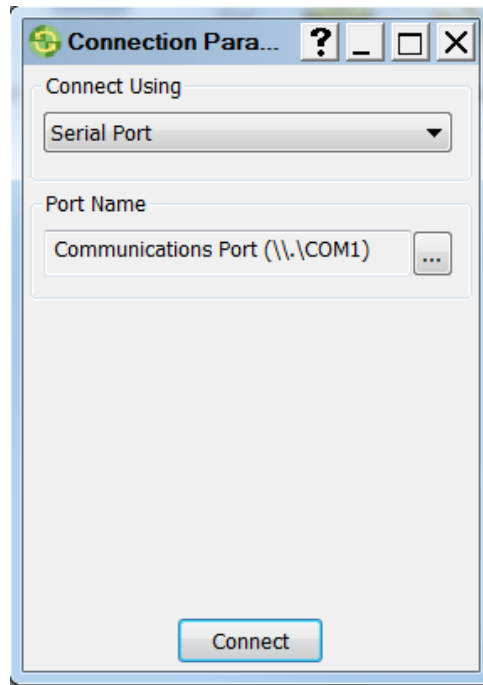

Figure 54: Connect to the Receiver
- Click **Connect** (Figure 54). The TRU main screen appears.